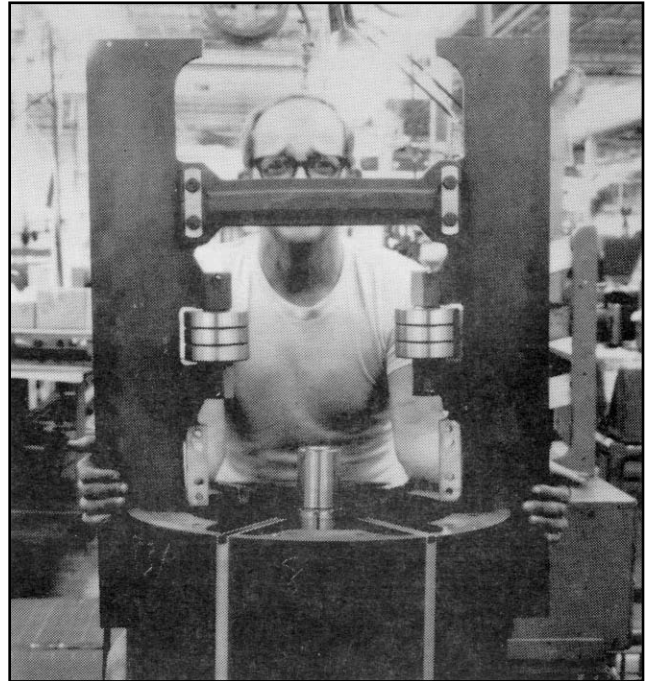

**Figure 35**
8. Remove adjusting collar, Figure 35.